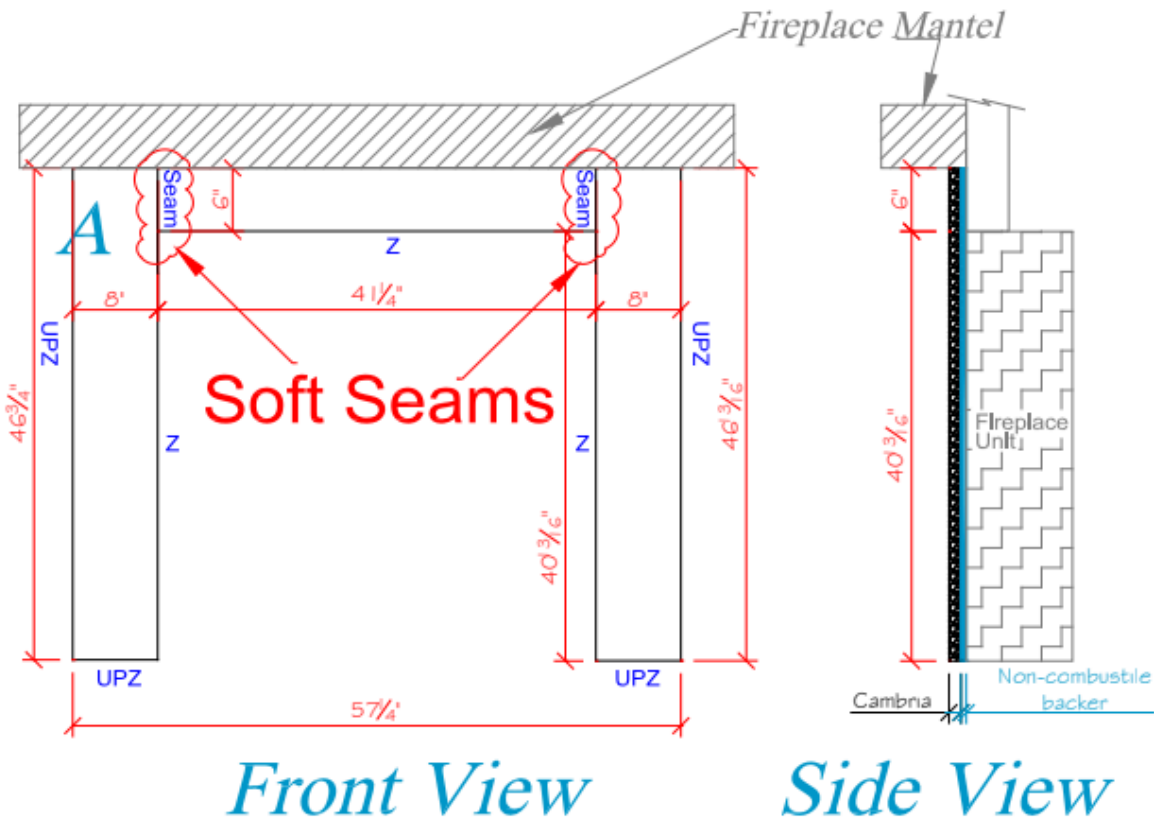

Figure 7
16. The height of the keystone piece may be less than the 10" requirement when a mantel is incorporated into the finished fireplace. **See Figure 7.**